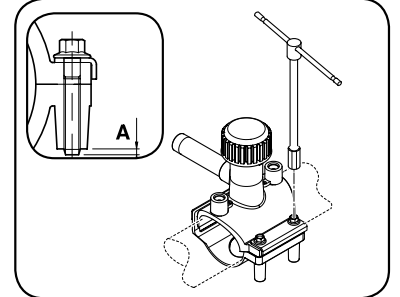

FIG.2
- 5 Fasten the tapping tee on the pipe using the **QUICK-COUPLING RIGID UNDERCLAMP**: hook the square holes of the underclamp to the teeth on the upper part; line up the metal spacer and use a wrench to tighten the two screws until they are in position A in the lower part (feel the screws sticking out of the bottom - see fig.2)